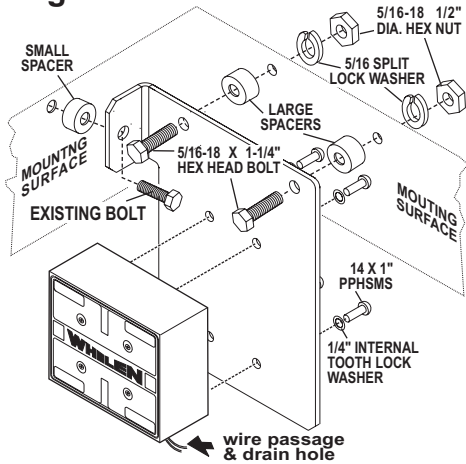

Fig. 2
3. Secure the speaker to the bracket using the supplied hardware (Fig. 2).